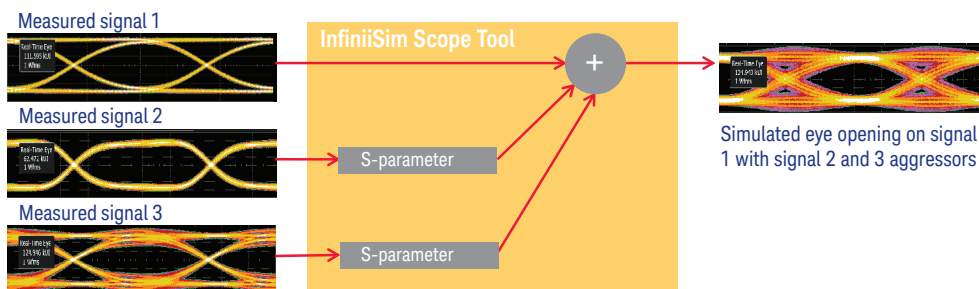

Figure 10. Turning an aggressor signal on and off to determine the effects on the victim signal.
- Serial data line simulation - A vector network analyzer (VNA) can be used to characterize crosstalk between serial data lines, or S parameter models. Then, an oscilloscope with software tools and the acquired S parameter models is used to simulate the waveform distortion through the victim signal. If, for example, measurements are made on three signals, the first, is the victim signal and the second and third signals are aggressors (Figure 10). The S parameters can be applied to determine how much of the content of the second and third signals is crosstalk components affecting the first victim signal. All three signals can be combined to simulate the eye opening on the first victim signal. This method can only be used during simulation and requires a known source or sources of crosstalk which is not helpful when trying to identify a real source of crosstalk for a design, or remove the crosstalk to determine margin improvement.